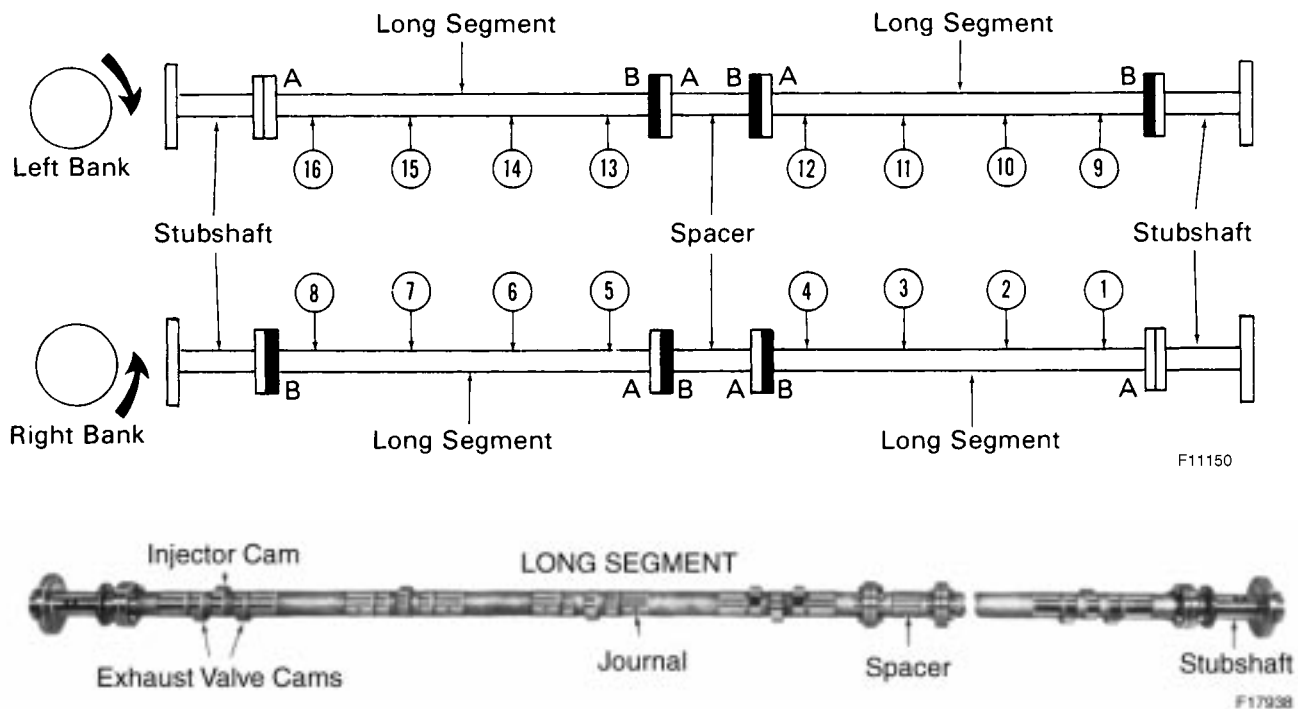

Figure 7-16. Typical Camshaft Assemblies (16-Cyl.)
The camshaft assembly, Figure 7-16., on page 7-30, consists of flanged segments, front and rear stubshafts, and a spacer is used on 12, 16, and 20-cylinder engines between the center segments. Each segment spans three (12-cyl.), four (8 & 16-cyl.), and five (20-cyl.) cylinders. Segment flanges are marked as shown in Figure 7-16 to aid in correct assembly. At each cylinder there are two exhaust cams, one injector cam, and two bearing journals. Two bearing blocks at each cylinder position, equipped with steel-backed lead base babbitt lined inserts, support the camshaft.
The camshaft must be assembled as shown in Figure 7-16., on page 7-30. One dowel bolt hole in each segment flange is smaller than the others to ensure correct angular position.
Camshaft assemblies installed on an engine must conform to segment sequence and position as indicated in Figure 7-16., “Typical Camshaft Assemblies (16-Cyl.)” on page 7-30. On right bank camshafts, the “A” marking on each flange is toward the front of the engine. On left bank camshafts, the “B” marking on the flange must be toward the front of the engine.
4. Install camshaft assembly on the engine in the proper orientation as previously described and shown in Figure 7-16., on page 7-30.